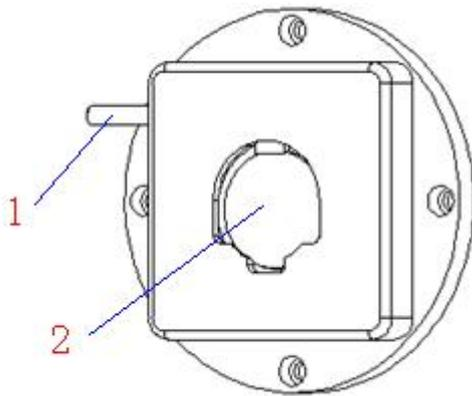

Fig. 23
As Fig. 23 shows. Position (1) which is often touched when operation, and position (2) which always contacts with the specimens. These two positions, especially position (2) is very easy to be polluted, so it need to be cleaned frequently to ensure normal operation.